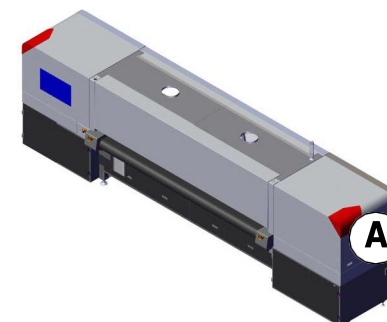

Figure 6-8 Printer Rear View
2. Open carriage compartment door, Figure 6-8 location (A), and go to the printer rear.